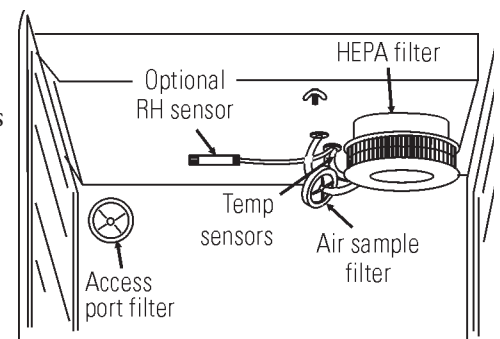

Figure 5-1. Sensor and Filter Locations
2. Remove the shelves, access port filter and side duct sheets. Remove the temperature sensors and the air sample filter tubing from the back of the blower scroll. If unit is equipped with the optional RH sensor, unfasten it from the clip on the top duct. See Figure 5-1.